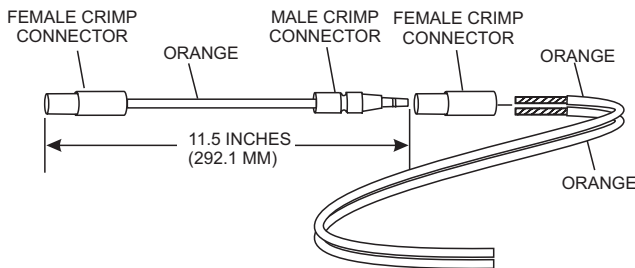

Figure 5. Orange Wire Crimp Connection
10. Insert, then crimp both orange wires (Figure 5) into the female crimp connector.